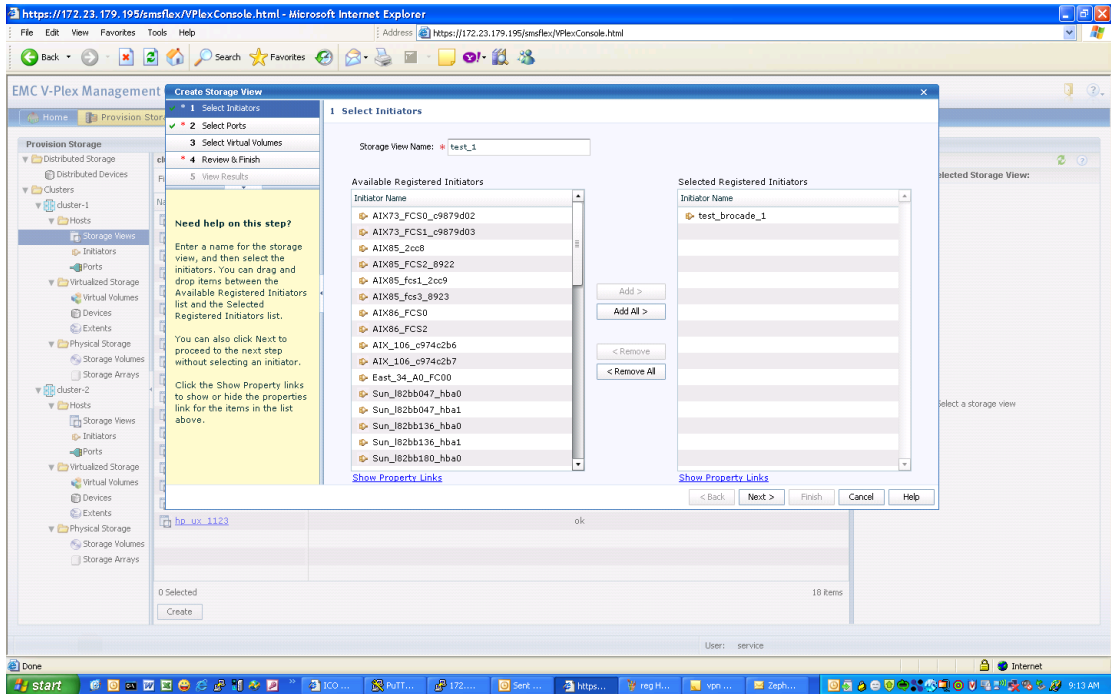

Figure 34 Create storage view
1. Creating a storage view, as shown in Figure 34.